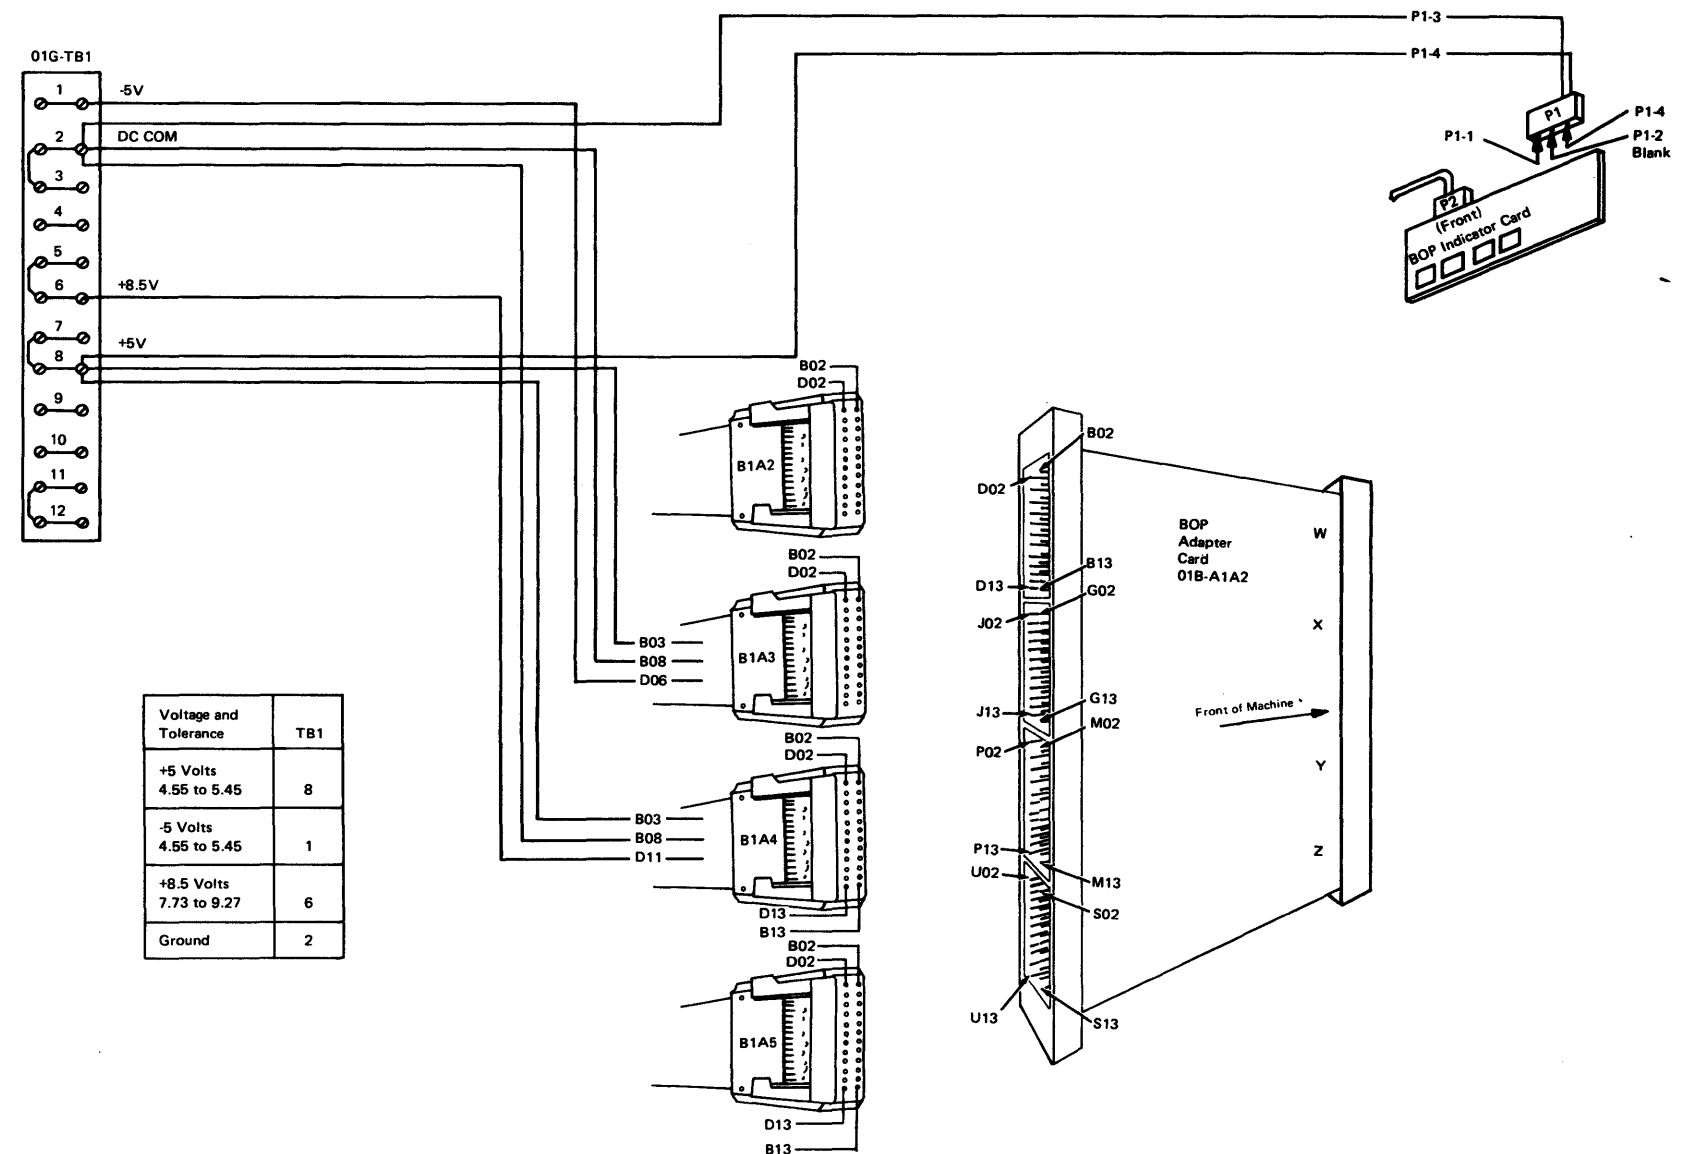

Figure BU532-1. 8140 BOP and Adapter Card Voltage Distribution
1. Check the voltage at 01G-TB1 by using the table in Figure BU532-1. (01G-TB1 is located next to the fuse holders at the top left of the service area.)
3. If all voltages are correct at 01G-TB1, remove the connector at the indicator card (P1), and the cables at BOP adapter card locations B1A3 and B1A4. Check the voltages on the connector and cables using Figure BU532-1.
5. If any voltage is either missing or out of tolerance at the cables or connector and correct at 01G-TB1, isolate the failure by using Figure BU532-1 and repair or replace as necessary.